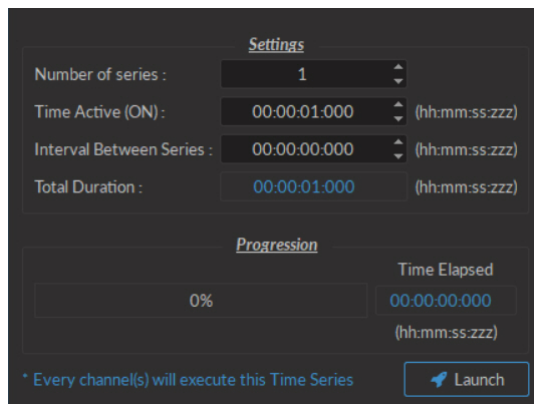

Figure 3.12: Control & Settings, Time Series Window
- The **Number of series** (Fig 3.12) sets the number of times that the sequence will be repeated, with a minimum of 1.